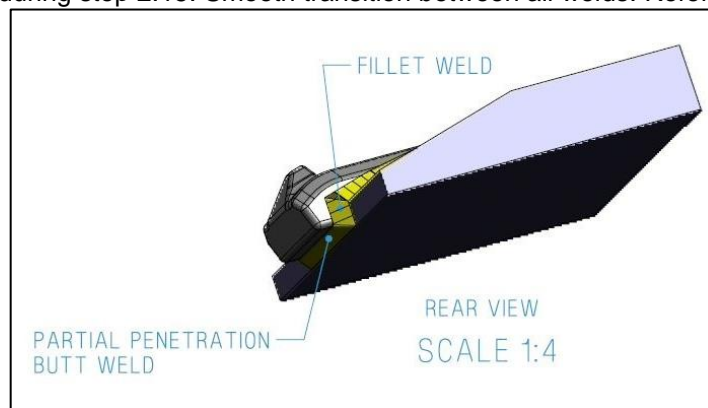

Figure 33 Excerpt from Weld Information drawing BU00037748
2.16.4. Add fillet welds to the Boss corners to connect partial penetration butt weld and fillet welds which were completed during step 2.15. Smooth transition between all welds. Refer Figure 33.